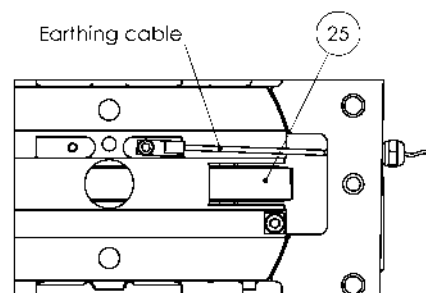

Fig. 34.1
- Make sure that the cable is fully stretched and out of the loose oil ring (25) reach (Fig. 34.1).